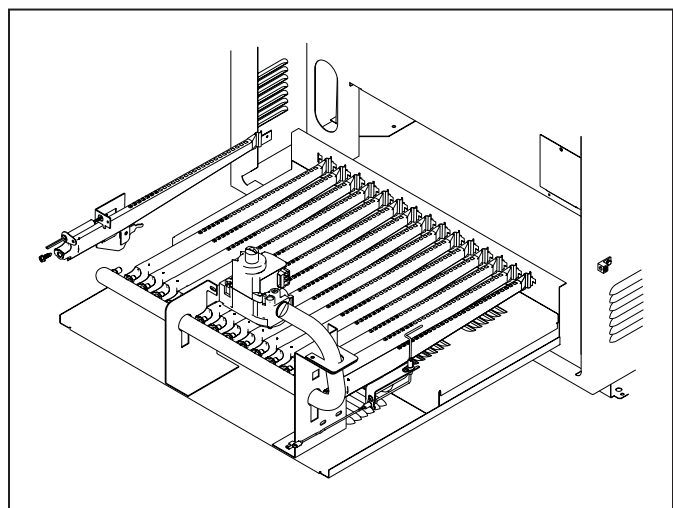

Figure 4. Installation of the new Igniter Assembly
3. Install the new igniter in the igniter bracket on the burner and secure it using the screw provided in the kit. See Figure 4.